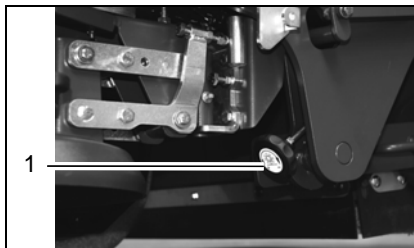

Fig. 39
4. Turn the adjusting device (Fig. 39/1) on both sides of the vehicle as described below: